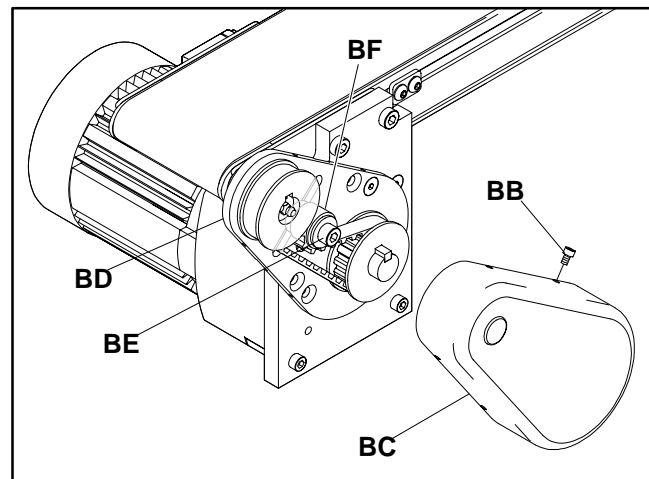

Figure 33
6. Disconnect power. Then, remove the screws (BB of Figure 33) securing the belt guard (BC). Then, remove the belt guard.
8. Loosen the cap screw (BE) which secures the tensioning bearing assembly (BF).
- Tighten the tensioning bearing assembly cap screw (BE of Figure 33) with 18 ft-lb (24 Nm) of torque.
- Re-assemble the belt guard (BC) and belt guard screws (BB) to the back guard plate (BD).